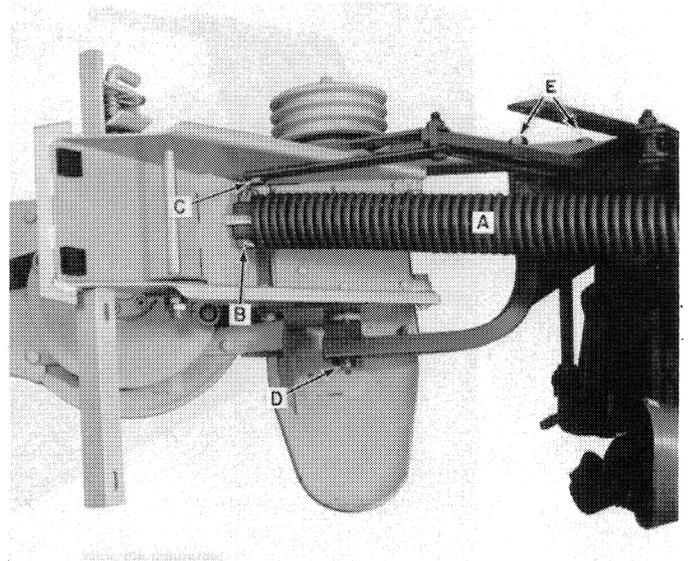

FIGURE 4
4. Slacken the spring A, Figure 4, by turning the handle. Remove bolt B to remove the